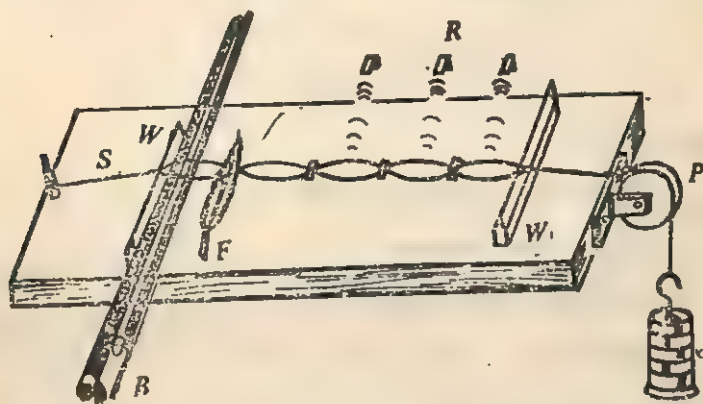

Fig. 5.14. Demonstration of Overtones (B—Bow ; F—Feather
**Apparatus.** A sonometer or the arrangement shown in Fig. 5.14, hanger and weights, a bird's feather or a strip of thick paper, a piece of paper, a scissors and a bow.
(ii) Put the paper riders along the wire at equal spacing between the bridges. Now remove two riders from one side, and in their place put the feather and the bow as shown in Fig. 5.14. Touch the wire with feather at the position shown and bow the wire to set it into vibrations. You will observe that only the alternate riders jump off and the rest remain stationary on the string. These riders which remain stationary represent the positions of **Nodes** and those which flied off represent the positions of **Antinodes**.